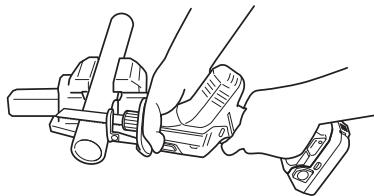

Fig. 23
#### (1) Fasten a workpiece firmly before operation. (Fig. 23)